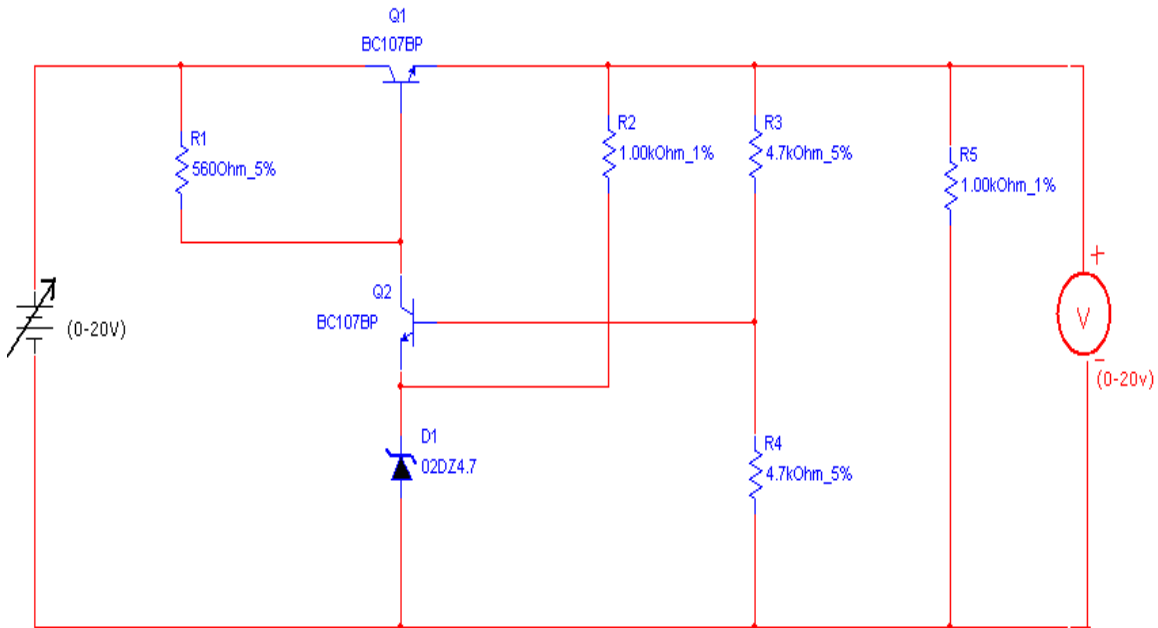

Fig: 2 BJT Voltage Shunt Regulator
1. To measure Z_i (Input Impedance) Procedure 1. Connect the circuit as shown in figure. 2. Set the DRB to minimum resistance (0Ω), I/P sine wave amplitude to 1V Peak to Peak, I/P sine wave frequency to 10 KHz. 3. Measure V_o (p-p). Let $V_o = V_a$ 4. Increase DRB till $V_o = V_a/2$. the corresponding DRB value gives Z_i .